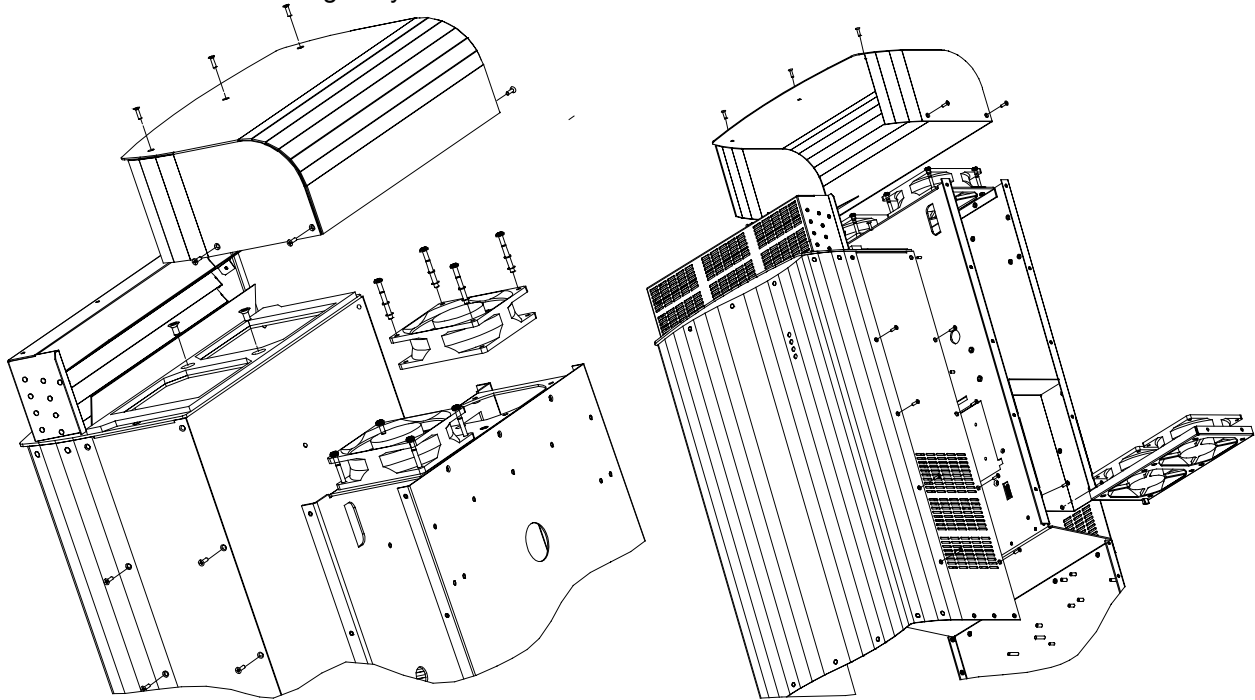

Figure 19: Top cover removal and fan replacement
2. Remove two screws on each side of the fan tray assembly (right side, Figure 19)